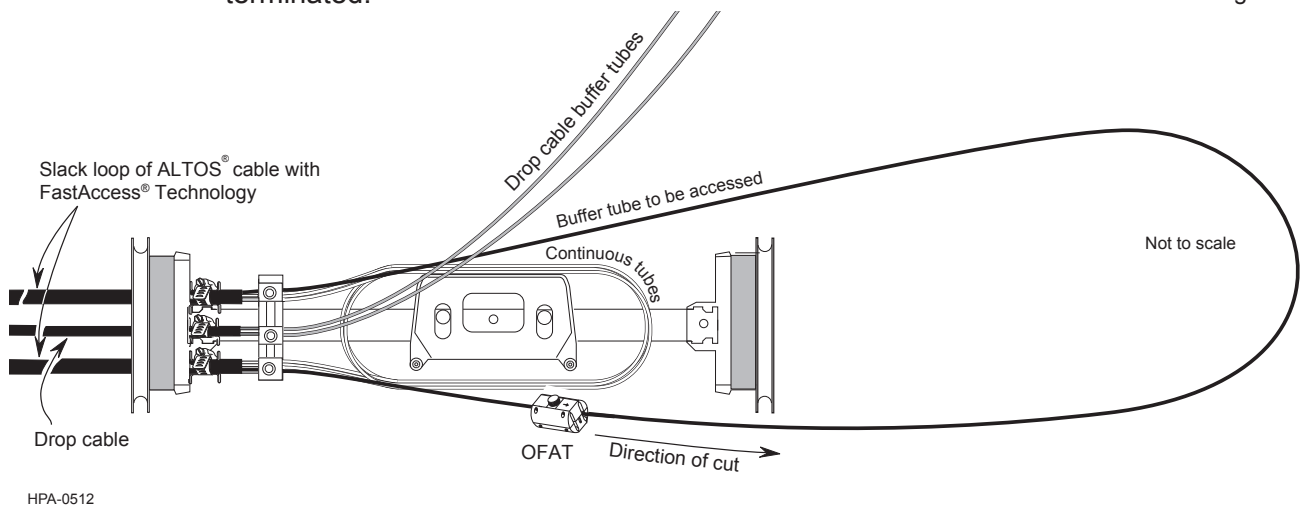

Figure 29
Step 14: Mount the ALTOS cable into the closure or hardware along with the drop cable according to the closure/hardware instructions (see Figure 29). Depending upon the type of closure or hardware being used, install any cable mounting hardware and sealants at this time.
Step 2: Access the appropriate buffer tube as described in the OFAT tool's instructions (Figure 29).